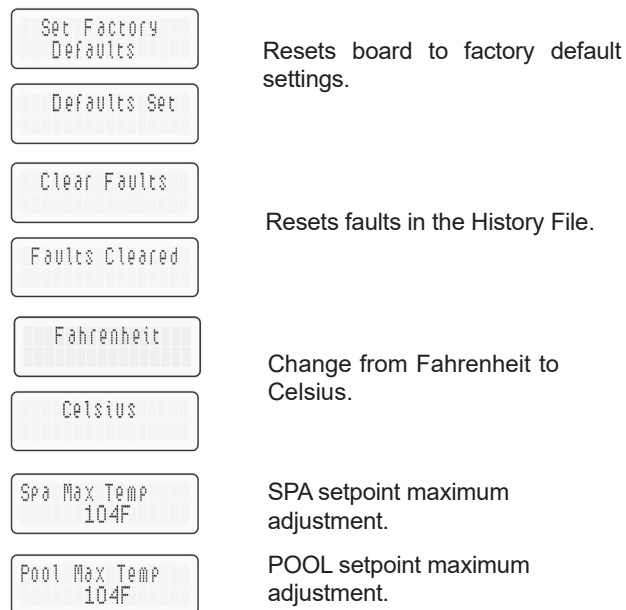

Figure 45. Programmable Events
2. Press the MODE button sequentially until the desired program event is reached. There are 5 different events that can be programmed. They appear in the sequence listed in Figure 45.